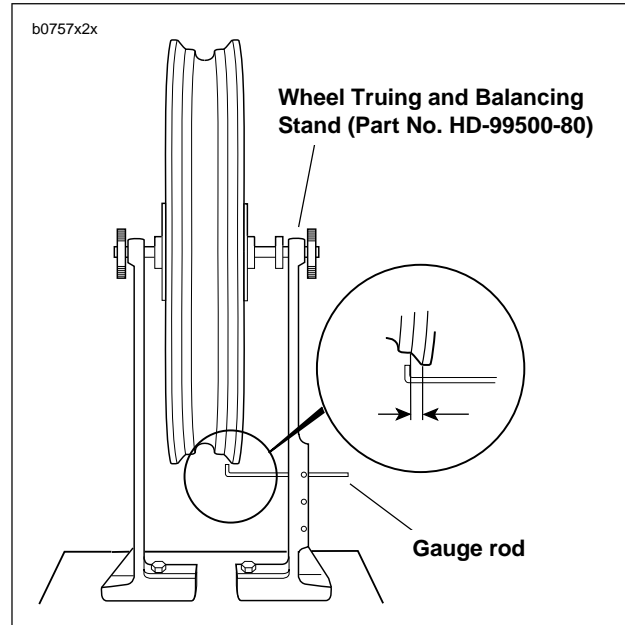

Figure 2-24. Checking Cast Rim Lateral Runout
1. See Figure 2-24. Install truing arbor in wheel hub and place wheel in WHEEL TRUING AND BALANCING STAND (Part No. HD-99500-80).